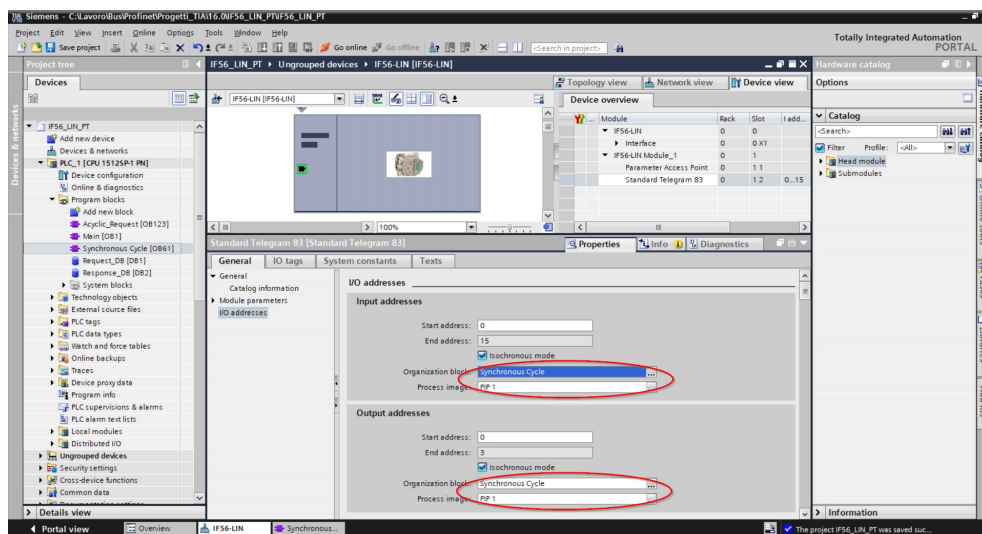

Figure 61 - I/O addresses set
18. at the end of the setting operation the standard telegram I/O addresses will be set as shown in the following Figure 61;